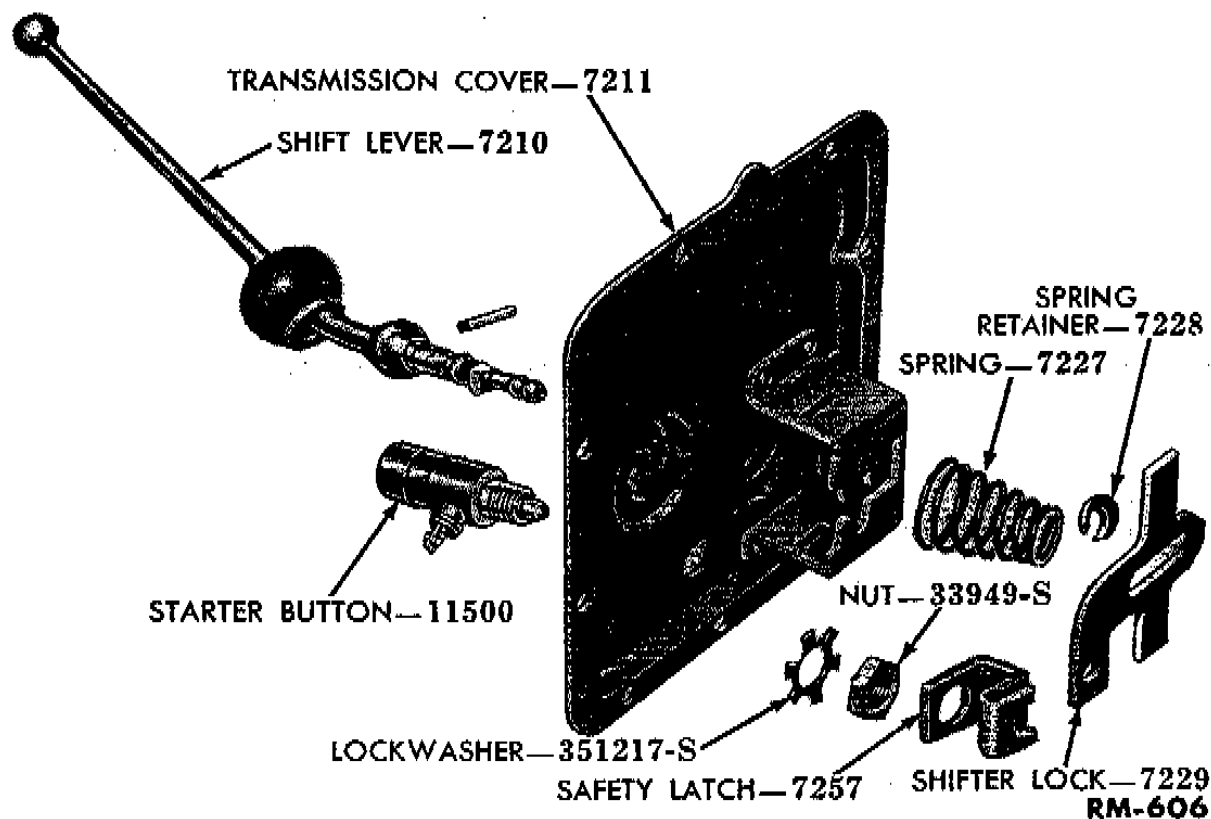

Fig. 15—Transmission Cover, Disassembled
(5) **TRANSMISSION COVER.** Slide the shift lever rubber boot up on the lever. Remove the starter switch. Compress the gearshift lever spring, and remove the horseshoe-type spring retainer. Pull up on the gearshift lever and, by turning it 90° clockwise, lift out the shift fork. Tilt the safety latch plate and remove (fig. 15). Drive the pin from the gearshift 1
e. Transmission Cover. If the shift lever has been removed, reinstall it, securing with a lever pin. This pin should be installed with an arbor press or bench vise. Install the safety latch plate. Place spring (7227) in position as shown in fig. 15. Slide the gearshift lever through the spring and safety latch plate and turn it 90 degrees until the pin is properly seated in the slot in the bottom of the cover. Compress the spring and install the spring retainer (7228). Position a new gasket on the starter switch and install the switch in the cover. Place the starter latch support over the threaded end of the switch and secure with a tabbed lockwasher and nut. Turn one of the tabs of the washer against the nut and secure the nut in place.